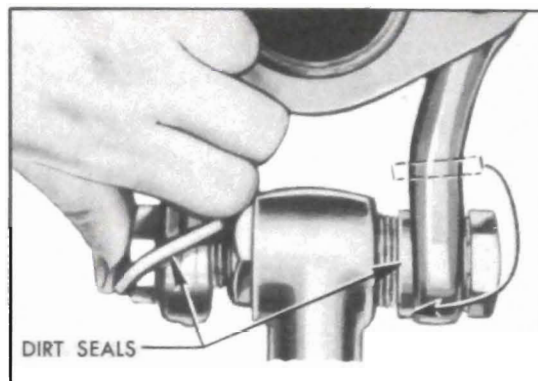

Figure 6-20—Installing Dirt Seals
3. Slip the lower pivot pin dirt seals over outer ends of lower control arm. Centralize lower end of knuckle support between outer ends of lower control arm, then install lower pivot pin and lockwasher from front side and tighten securely. Install and tighten nut. Snap dirt seals into place over pivot pin. See figure 6-20.